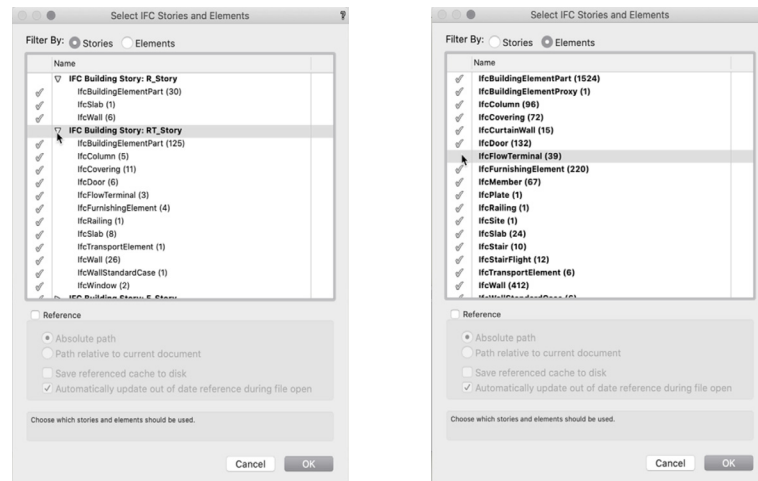

FIGURE 30: Select IFC Stories and Elements dialogs
- All IFC Stories and elements are imported by default. However, a filter can be applied to choose specific Stories or particular elements (Fig. 30).